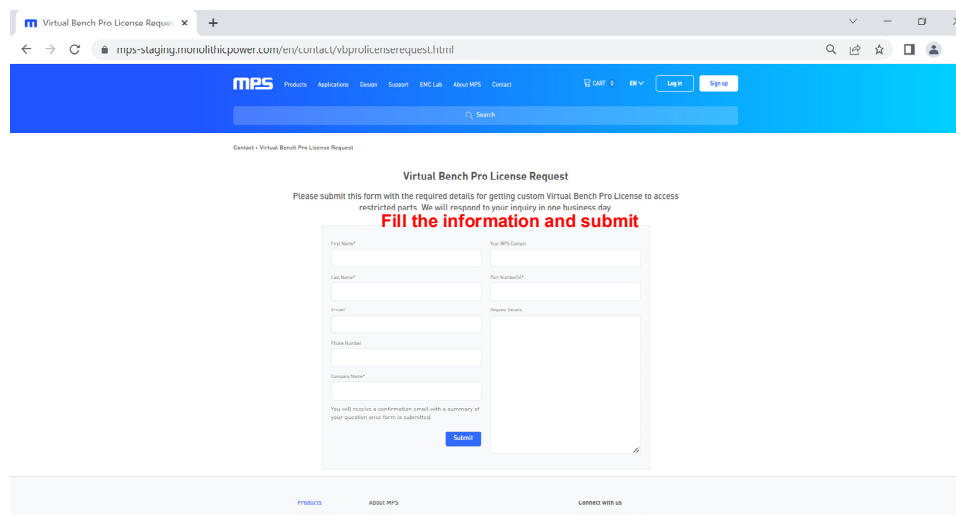

Figure 3: Filling Out the License Request Form
- b. Fill in all relevant information in the license request form by following the link to the MPS website (Figure 3). An MPS FAE should approve the request within 3 business days.